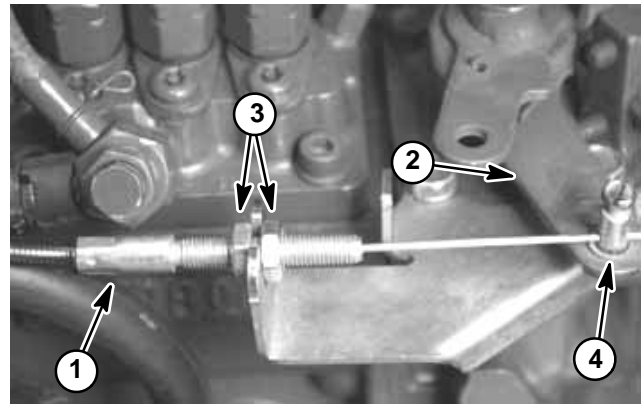

Figure 10
7. Loosen screw that secures the throttle cable to swivel on injector pump speed control lever. Disconnect cable from swivel and cable bracket (Fig. 10). Position cable away from engine.
9. Connect throttle cable to the swivel on injector pump speed control lever (Fig. 10). Adjust cable (see Adjust Throttle Control in the Adjustments section of this chapter).